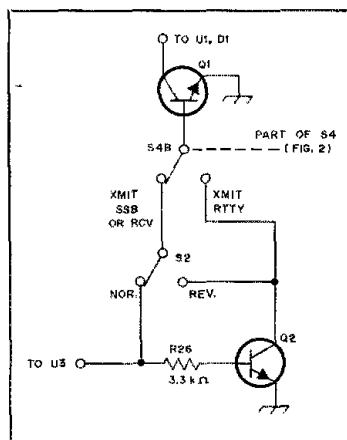
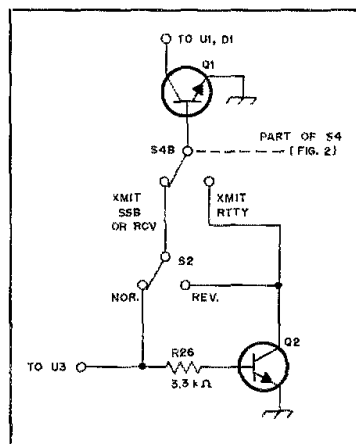
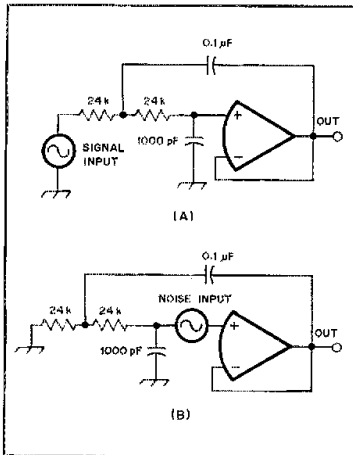

Fig. 5 — This modification of the terminal unit circuit shown in December 1980 QST, page 21, provides a single switch for transmitting.
Fig. 5 — This modification of the terminal unit circuit shown in December 1980 *QST*, page 21, provides a single switch for transmitting.
Fig. 2 — Common circuit for a low-pass active filter at A, and simplified diagram illustrating device noise, B.
Regarding the State-of-the-Art Terminal Unit described in December 1980 QST, I would like to suggest a switching improvement. By making S4 in Fig. 2 a 3pdt switch, wired as shown in Fig. 5 here, it is possible to use S4 to transmit without regard to the position of S2. In addition to the corrections indicated in "Feedback" (March 1981 QST, page 51), I suggest that the voltage rating of C3 be increased from 50 V to 200 or 300 V inasmuch as this capacitor is in the 120-V loop circuit. — Bud Weisberg, K2YOF, Bergenfield, New Jersey
Fig. 2 — Schematic diagram (A) of the WØDLQ test box. Components are housed in a 4 × 6-inch (102 × 152-mm) enclosure. The metering circuit (B) is housed separately. It may be connected to the test box through J3 and J4. A center-zero meter (Weston 301) is arranged in a circuit adapted from the 1964 Handbook. There are six separate ranges provided by the 1%, 1/4-watt resistors. R_p is a protective resistor guarding against transistor damage. J1 and J3-J6, incl., are pin jacks. J2 and J7 are BNC connectors.
□ Regarding the State-of-the-Art Terminal Unit described in December 1980 *QST*, I would like to suggest a switching improvement. By making S4 in Fig. 2 a 3pdt switch, wired as shown in Fig. 5 here, it is possible to use S4 to transmit without regard to the position of S2. In addition to the corrections indicated in "Feedback" (March 1981 *QST*, page 51), I suggest that the voltage rating of C3 be increased from 50 V to 200 or 300 V inasmuch as this capacitor is in the 120-V loop circuit. — *Bud Weisberg, K2YOF, Bergenfield, New Jersey*
Reference is made to the Product Review column in the May 1981 issue of *QST*. Fig. 2 on page 38 is *not* an accurate depiction of the noise about the carrier frequency of the TS-830S. The picture really shows the noise sidebands of the spectrum analyzer. Noise output of the review unit is actually so low it cannot be measured with the instrumentation on hand in the ARRL laboratory.